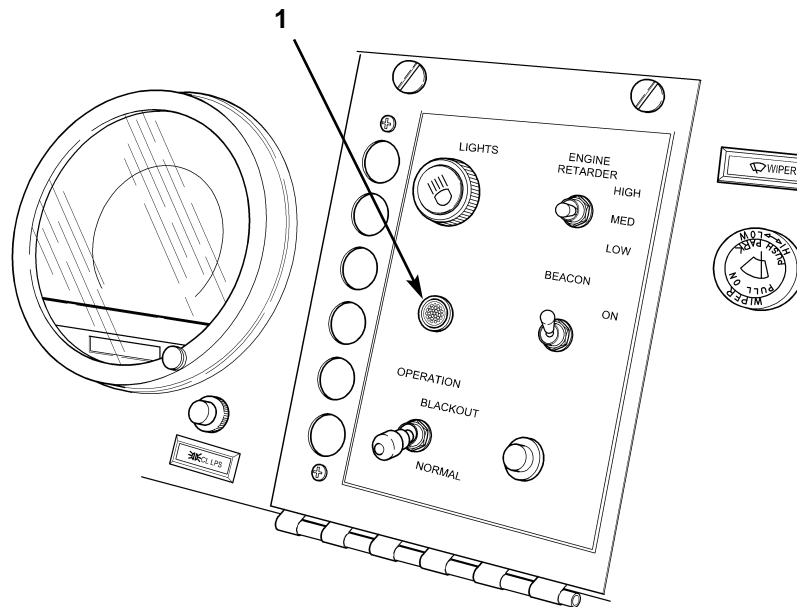

Figure 90. ABS Warning Light.
16. Start engine and drive vehicle. Refer to TM 9-2320-283-10. Test brakes at slow speeds in parking lot prior to operating on public road. If ABS warning light (figure 90, item 1) goes on and remains on, refer to troubleshooting, WP 0009.
17. Operate tractor on paved road at 40 mph (64 kph) and make a panic stop by applying service brake pedal until tractor comes to a complete stop. Observe if any wheel locks or if ABS warning light (figure 90, item 1) goes on and remains on. If any wheel locks or ABS warning light (figure 90, item 1) stays on, refer to troubleshooting, WP 0009.
18. Operate tractor on paved road at 60 mph (97 kph) and make a panic stop by applying service brake pedal until tractor comes to a complete stop. Observe if any wheel locks or if ABS warning light (figure 90, item 1) goes on and remains on. If any wheel locks or ABS warning light (figure 90, item 1) stays on, refer to troubleshooting, WP 0009.